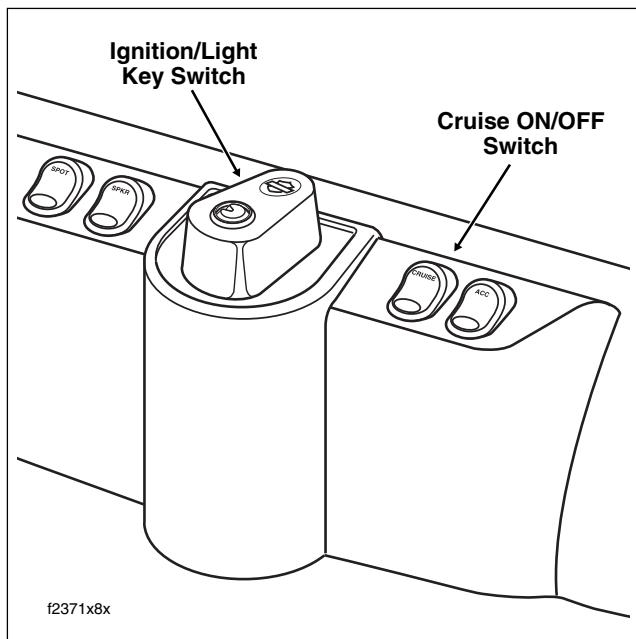
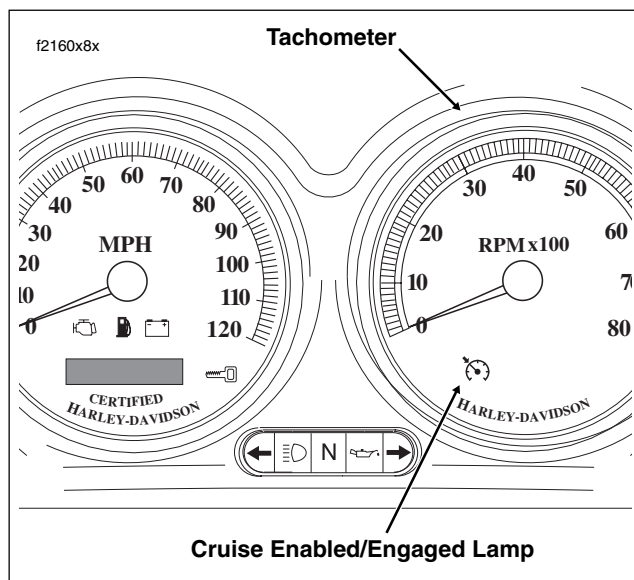

Figure 7-1. Fairing Cap (FLHTCU)
Figure 7-3. Instrument Panel (FLHTCU)
1. While riding in fourth or fifth gear, turn the Cruise ON/OFF Switch to the ON position. See Figure 7-1. The switch is located on the fairing cap of FLHTCU models, the instrument nacelle of FLTR models, and the left handlebar lower switch housing on FLHRC models. The Cruise Enabled/Engaged lamp in the tachometer face (speedometer on FLHRC models) turns red to indicate that the system is activated. See Figure 7-3. A red lamp in the switch on both FLHTCU and FLTR models also indicates this condition to the rider.
The cruise control module "reads" the vehicle speed sensor (VSS) output to establish the desired vehicle speed. The module then sends a signal to the stepper motor which drives the ribbon reel to take up the slack in the cruise cable. The Cruise Enabled/Engaged lamp in the tachometer face (speedometer on FLHRC models) turns from red to green to indicate that the cruising speed is locked in. See Figure 7-3.
In the diagnostic mode, the Cruise Enabled/Engaged lamp is employed as a test indicator. The lamp is in the tachometer face (speedometer on FLHRC models). See Figure 7-3.